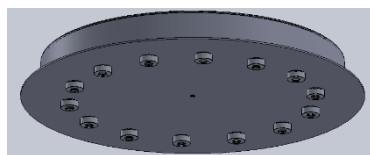

FIG. 5 CANOPY SUBASSEMBLY
3. CANOPY SUBASSEMBLY (as shown in FIG. 5.